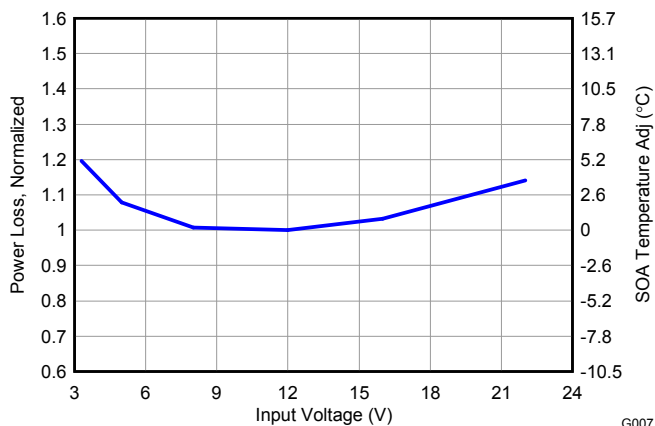

Figure 7. Normalized Power Loss vs Input Voltage
- Normalized Power Loss for input voltage  $\approx 1.0$  (Figure 7)
- SOA adjustment for input voltage  $\approx 0^\circ\text{C}$  (Figure 7)